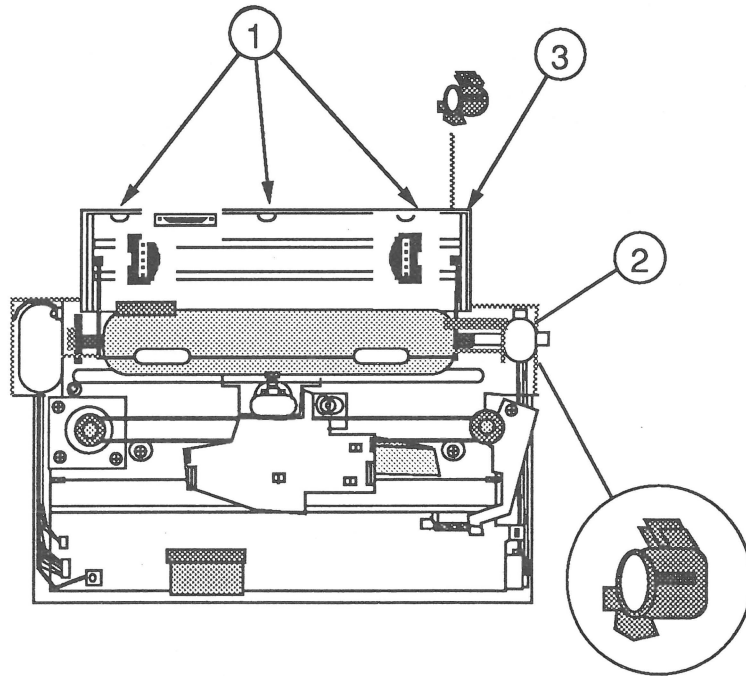

FIGURE 14
16. Locate the three plastic locking tabs (Figure 14, #1) on the inside of the printer case above the mechanical assembly and below the tractor assembly. Carefully push back on the rear of the printer case, releasing the tabs that help secure the mechanical assembly to the printer case. As you push back on these tabs, gently lift the mechanical assembly by pulling up on the tractor assembly. Make certain the sheetfeeder option plug is pushed off its mount.
17. Pull off the black plastic friction/tractor adjustment piece (Figure 14, #2) from the right side of the platen and place it between the frame and the printer case just above the transformer (Figure 14, #3). This piece will act as a wedge and will support the mechanical assembly at the height necessary to perform the remaining steps of this procedure. The long leg that fits down into the paper friction gears will rest on the back side of the plastic case.